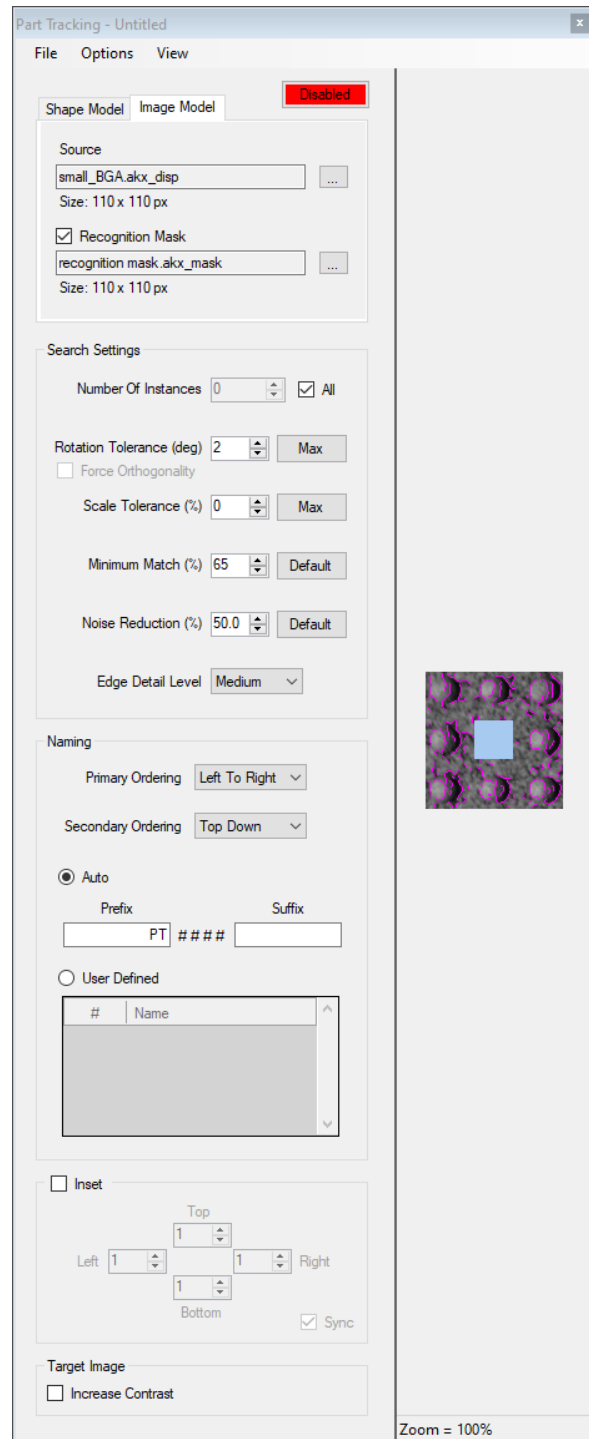

Figure 2.45 Part Tracking - Image Model
- **Image Model** – Allows an image to be loaded as the model to be found (**Figure 2.45**). Input options are phase or displacement images, as well as *.bmp or *.png.